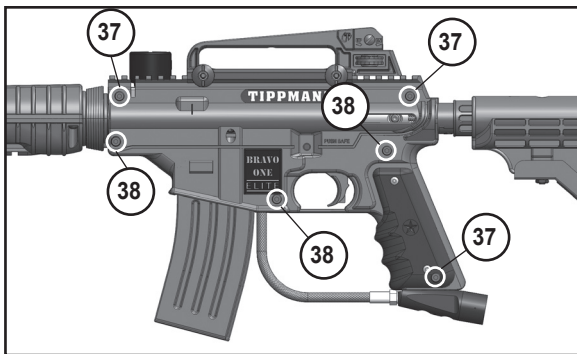

Figure 13: Remove Screws From Left Receiver Half
3. Insert five of the six Receiver Screws shown in Figure 13. Leave the bottom left #38 (as shown in Figure 13) out.
4. Reinstall the Barrel Shroud and secure with the remaining Receiver Screw (38) from step 3.
5. Attach the ASA (7), tighten two screws (39 and 40) (**NOTE:** #39 is the shorter adapter screw and goes in the front location as shown).
6. Apply marker oil onto the barrel O-Ring, insert the Barrel (9) and carefully screw it in.
7. Slide the Feed Elbow (41) into the Receiver and tilt up until the Feed Elbow Latch (33) holds it in place.
8. Press in the 2 magazine tabs and slide the magazine (55) up into the marker until the tabs lock it in place.